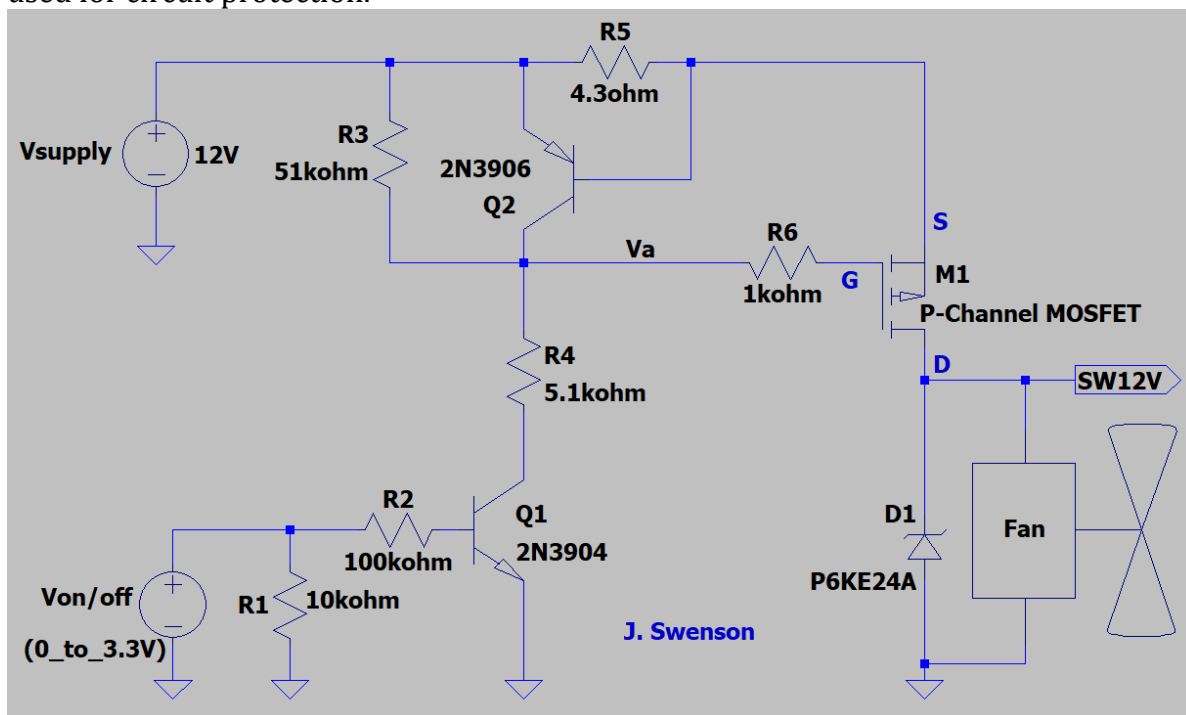
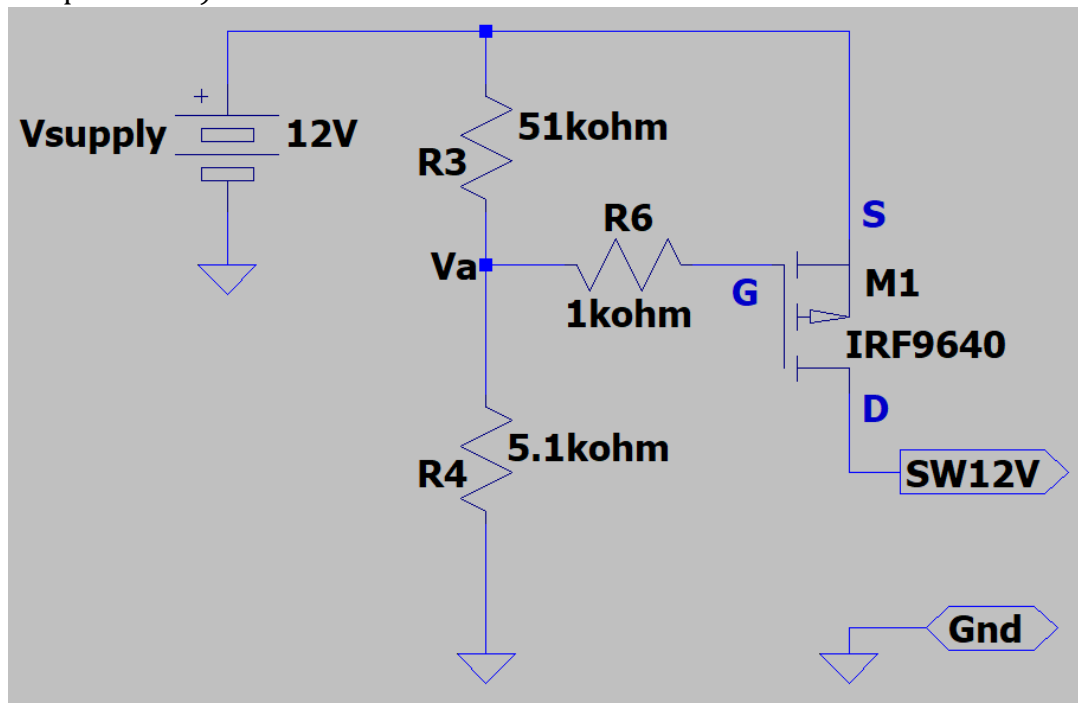

Figure 2: Switched 12 V Circuit.
Figure 5: Switched 12 V Circuit with Switch M1 Turned On and No Current Limit.
The circuit to be implemented in this lab is illustrated below in **Figure 2**. Referring to **Figure 2**, p-channel MOSFET (M1) is used to switch the 12 V on and off between V_{supply} and the SW12V output. Transistor Q1 is used to turn on and off the P-Channel MOSFET (M1), by means of the $V_{\text{on/off}}$ supply, which could be implemented with a 0 to 3.3 V output available from a microcontroller digital I/O. The $V_{\text{on/off}}$ supply is to be implemented with the VirtualBench adjustable +6 V supply set to +3.3 V for the on condition of the switched 12 V circuit. Because of the 10 k Ω pull-down resistor R1, simply disconnecting the $V_{\text{on/off}}$ supply from the breadboard will turn off the switched 12 V circuit, as will setting the $V_{\text{on/off}}$ supply to 0.00 V. The V_{supply} is to be implemented with the VirtualBench adjustable +25 V supply set to +12 V. Referring to **Figure 2**, with $V_{\text{on/off}} = 3.3$ V, transistor Q1 is turned on, pulling the node labeled V_a to approximately 1.0 V, resulting in the gate terminal of transistor M1 also equal to approximately 1.0 V. MOSFET transistors exhibit extremely high input resistance/impedance at the gate terminal, meaning that no dc current flows through protection resistor R6 into the gate terminal of the MOSFET. For this p-channel MOSFET, a gate voltage of 1 V and a source voltage of 12 V results in a source-to-gate voltage of approximately 11 V, which turns on transistor M1 resulting in $\text{SW12V} \approx 12$ V. With $V_{\text{on/off}} = 0$ V, Q1 and M1 are both turned off and $\text{SW12V} = 0$ V. Diode D1 is a Transient Voltage Suppressor (TVS) diode, used to clamp excessive voltages that occur when the fan motor current is abruptly changed. TVS diodes are essentially rugged Zener diodes commonly used for circuit protection.
1. Breadboard the Switched 12 V Circuit of **Figure 2**. The pre-made jumper wire pins can be directly inserted into the 2-pin connector associated with the 12 V DC fans
3. The **Figure 5** schematic below is a circuit approximation to the switched 12 circuit with transistor M1 is turned on and without any current limiting circuitry. When powered with 12 V, transistor M1 has a source-to-gate voltage of approximately 11 V. From the IRF9640 enhancement mode p-channel MOSFET data sheet, the transistor has a 62.5 °C/W thermal resistance in the TO-220AB package used in the lab, and an $R_{DS(on)}$ of approximately 0.4 Ω with 12 V source-to-drain voltage and 11 V source-to-gate voltage. With the **Figure 2** circuit powered by a healthy 12 V lead-acid car battery (> 300 A), determine the theoretical increase in the junction temperature of MOSFET M1, i.e., ΔT $\Delta T = R_{\theta JA} P_D$, if the SW12V output were accidentally shorted to ground. (Note: This should be a surprisingly large number.) Then briefly describe what you think would happen to the transistor during an accidental short. (4 Points. 3 points for calculation, 1 point for brief explanation.)